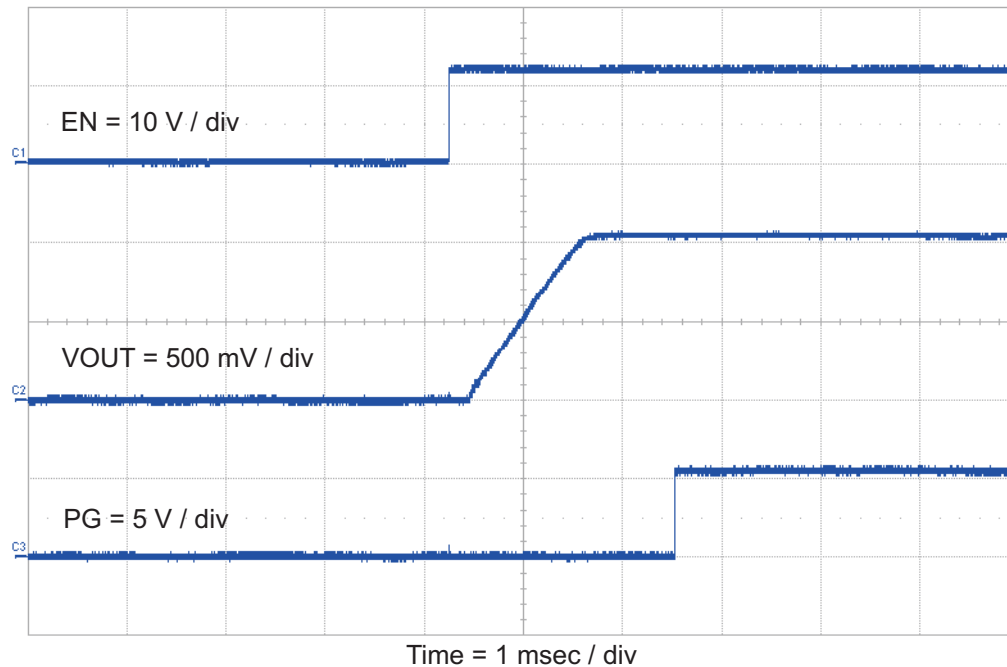

Figure 9. TPS54426EVM-608 Start Up Relative to Enable
The TPS54426EVM-608 start up waveform relative to enable (EN) is shown in Figure 9.